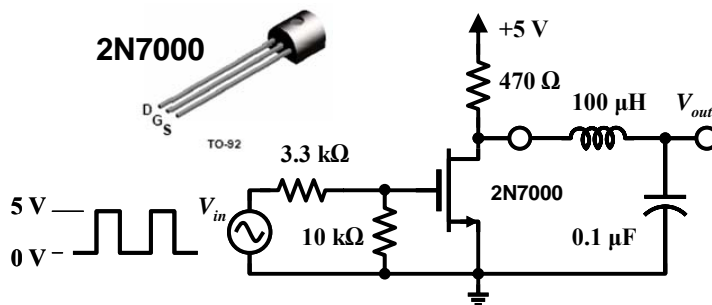

Figure 4-7 – MOS inverter driving an LC load.
- Calculate the drain resistor that achieves critical damping on the leading edge (on-off transition) for the circuit in Figure 4-7
The fun really begins when the transistor is attached to an inductive load. Let's start by considering a simple LC network as shown in Figure 4-7. Here we will use the 2N7000 for reasons that will become clear later.
- Build the circuit in Figure 4-7 with the component values shown, and use an input frequency of 2kHz. Record your output waveforms.